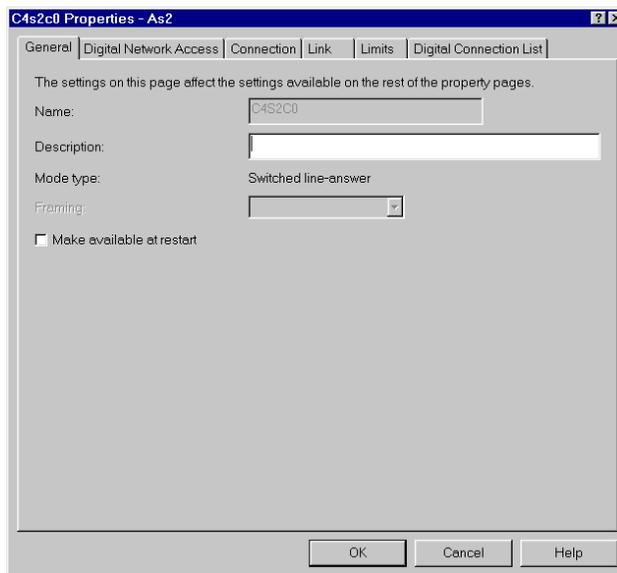

Figure 104. General tab of the selected line
3. Click **Open**. A properties display appears for the selected line (Figure 104).